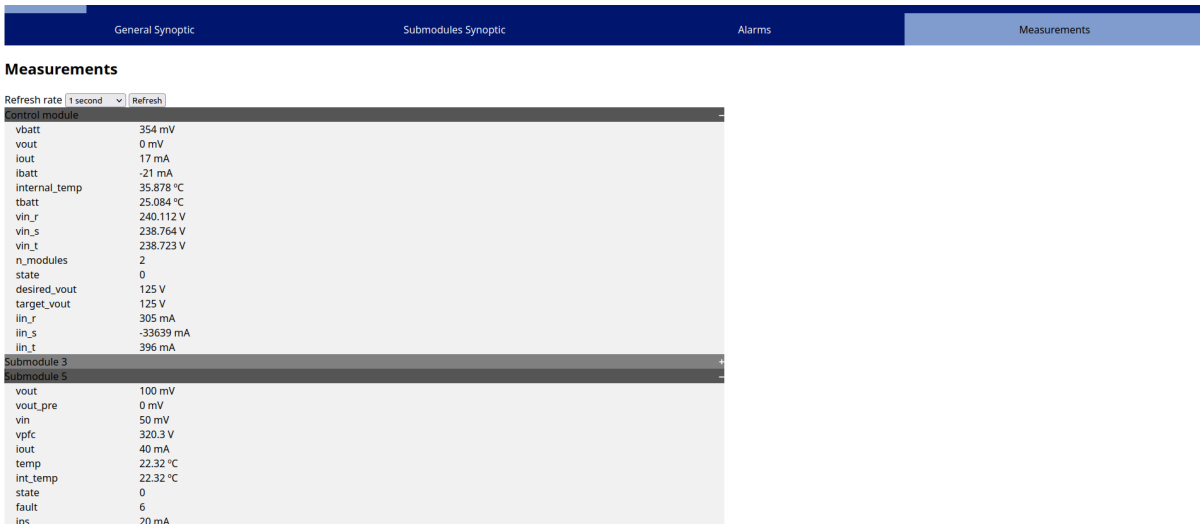

Figure 38 - Web - Overview - Measurements
- Measurements (Figure 38): It shows the list of the variables measured by both the control module and the different power modules connected to the system.